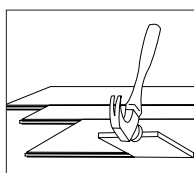

Figure 9
- It may be necessary to align the product with a cut-off piece of scrap as shown (Figure 9—Keep scrap angle low to avoid edge damage).